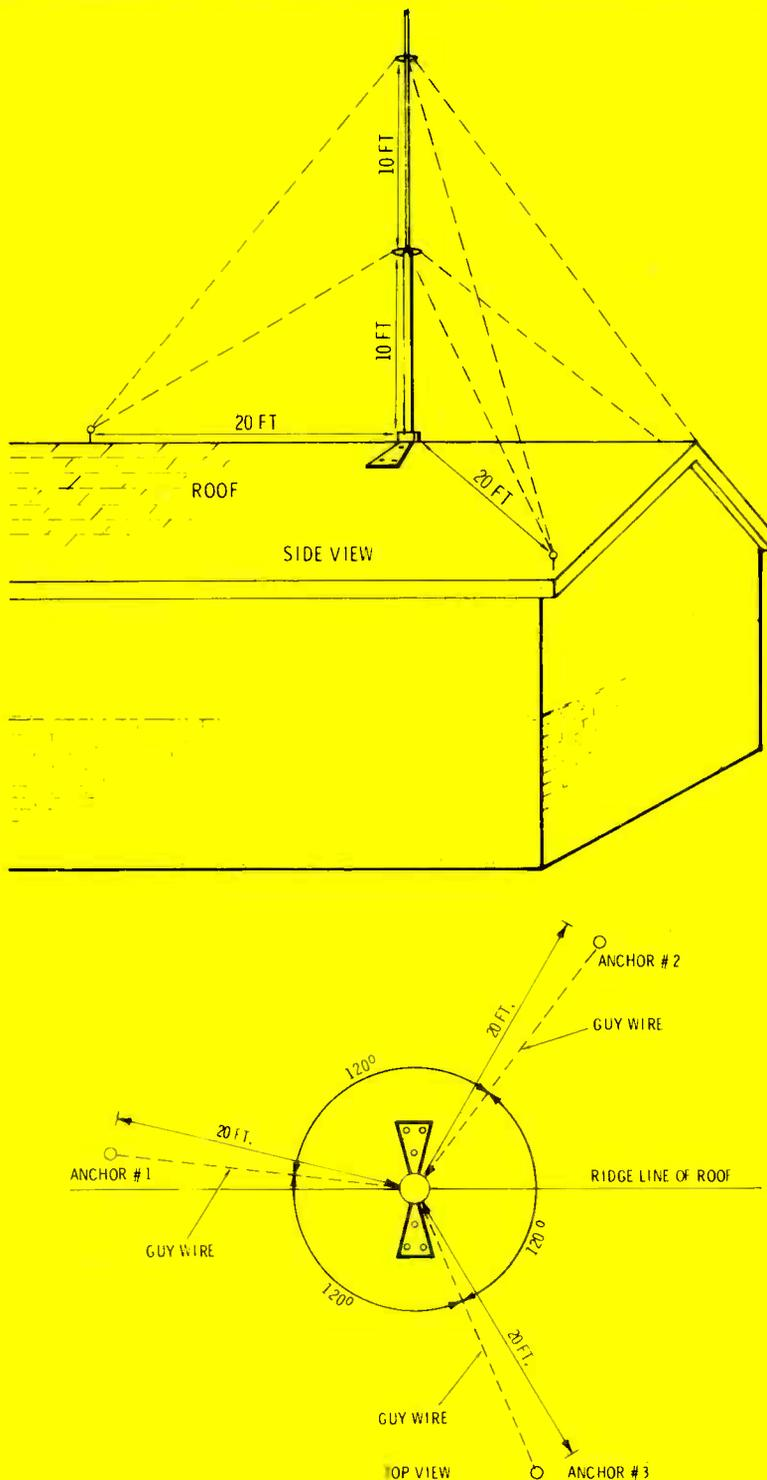

Fig. 8 These sketches show how the guy wires are to be arranged.
Lay out a guying plan as the sketch in Figure 8 shows. Each level of guying takes three wires. And each level has two criteria. (1) **The wires must be spread 120 degrees apart.** A narrower angle creates too much stress when winds blow from "between" the guy angles. (2) **A guy anchor should not be closer to the mast base than the height of its guy level.** That is, guy wires for the 10- and 20-foot mast levels should anchor at least 10 and 20 feet from the mast. If the shape or size of the roof does not permit the guy anchors to be spread according to these criteria, settle for a shorter mast or find places somewhere off the roof to anchor.